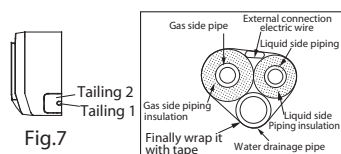

Fig.7
1. When routing the piping and wiring from the left or right side of indoor unit, cut off the tailings from the chassis in necessary (Show in Fig.7)